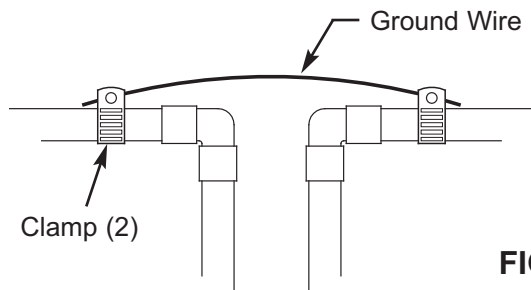

FIG. 10
- Install a #4 copper wire across the removed section of main water pipe, securely clamping it at both ends (See Figure 10) - parts not included.